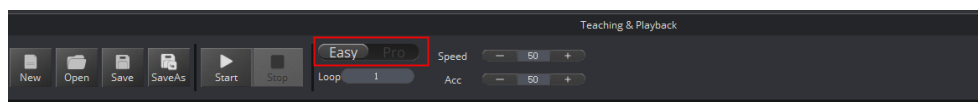

Figure 5.175 Switch advanced function
Step 2 Click **Easy** icon on the **Teaching&Playback** page, as shown in Figure 5.175.